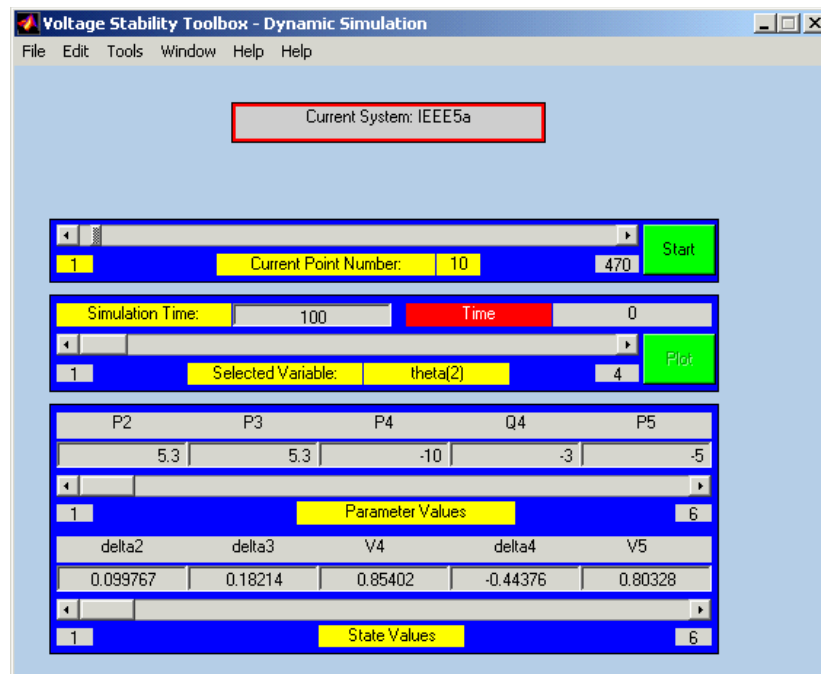

Fig. A.22 The Dynamic Simulation window
- This will activate Dynamic Simulation window as shown in Fig. A.22.